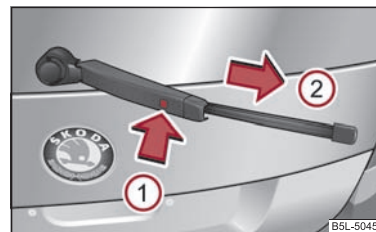

Fig. 52 Wiper blade for the rear window
- Fold windscreen wiper arm out from the windscreen and position the wiper blade at right angles to the wiper arm ⇒ fig. 52.
- With the other hand unlock the locking button ① and remove the wiper blade in the direction of arrow ②.